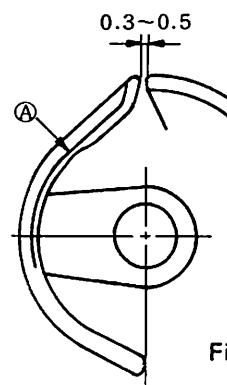

Fig. 29
Make sure that the shuttle driver does not have any scratches at all on its thread paths. Smoothness of the shuttle race surface is always important, especially for high speed operation. The side edges ① shown in Fig. 29 must be smooth enough to allow the thread to pass over them.
A. The standard clearance between the shuttle driver and the shuttle is 0.3 to 0.5 mm (about 1/64"). If the clearance is smaller than that, it will not allow the needle thread to smoothly pass and will cause thread breakage or will leave an excessively long thread in the needle eye. On the other hand, if the clearance is too large, the shuttle race will make a noise. (Fig. 29)